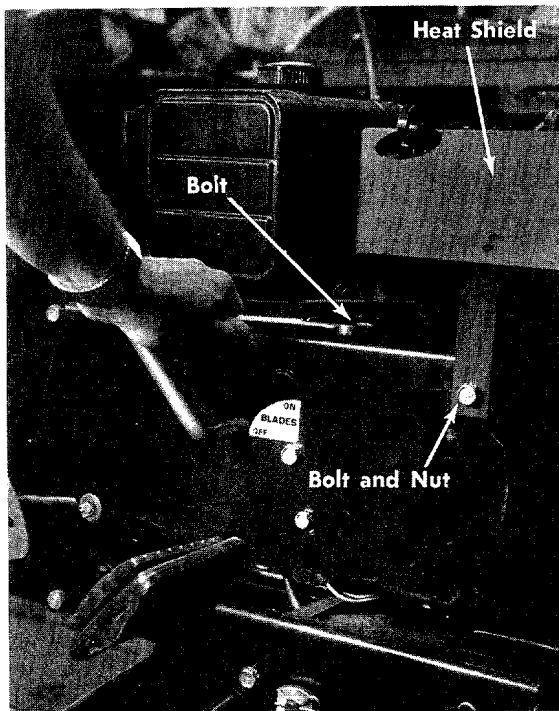

FIGURE 13. BELT GUARD
- 9. Remove the top bolt on the belt guard. See figure 13.
Different heat shields are used depending on the style of muffler used on your tractor. If the heat shield on your tractor is attached to the belt guard it is necessary to remove the bolt and nut shown in figure 13.